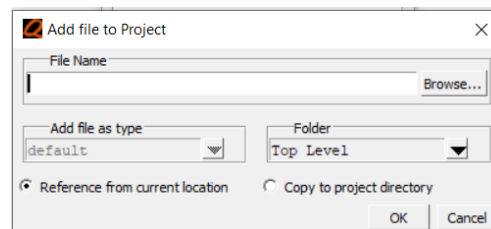
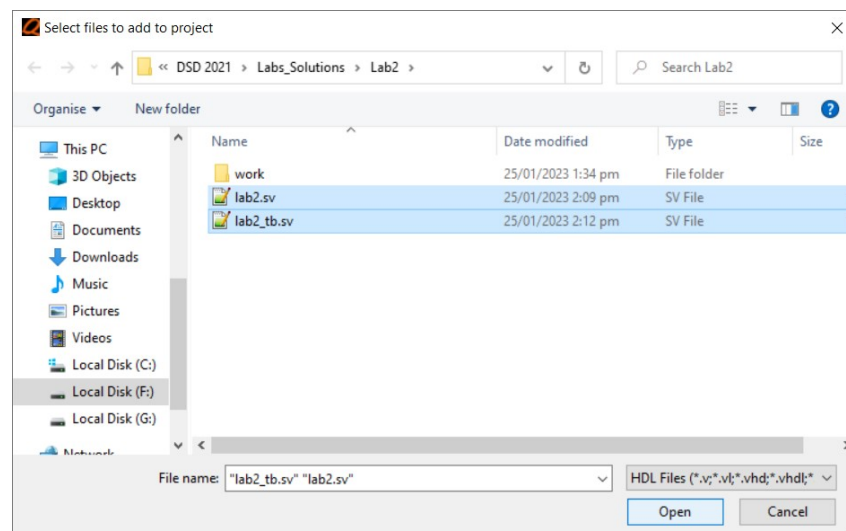

Fig. 3.5: Add File to the Project window.
Fig. 3.6: Adding RTL and test bench files to project.
4. Next click on *Browse* (Fig. 3.5) and select the System Verilog RTL and test bench code file (Fig. 3.6), click *Open* and then click *OK*.